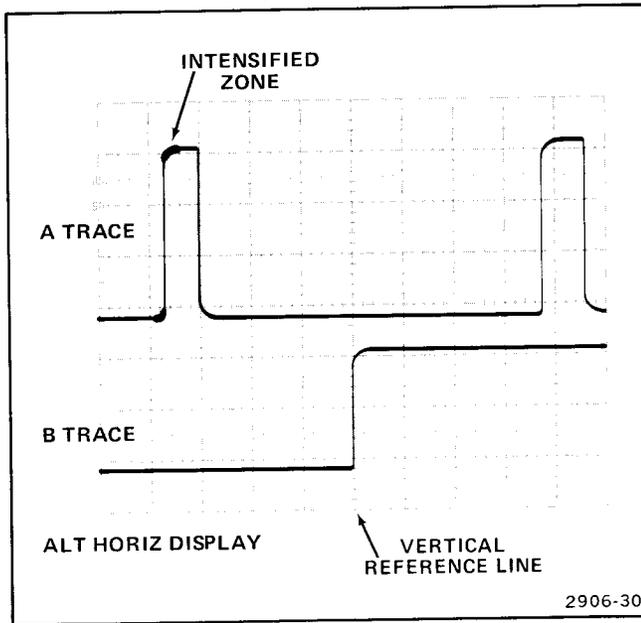

Figure 46. Time difference between repetitive pulses.
5. Rotate the DELAY TIME POSITION control to move the intensified zone to the first pulse (see Figure 46).
7. Observe the B trace display and adjust the DELAY TIME POSITION control to move the rising portion of its pulse to the vertical reference line (see Figure 46).
EXAMPLE: For the pulses illustrated in Figure 46, the first dial setting is 1.31 and the second dial setting is 8.81, with the A TIME/DIV switch set to  $0.2 \mu\text{s}$ .